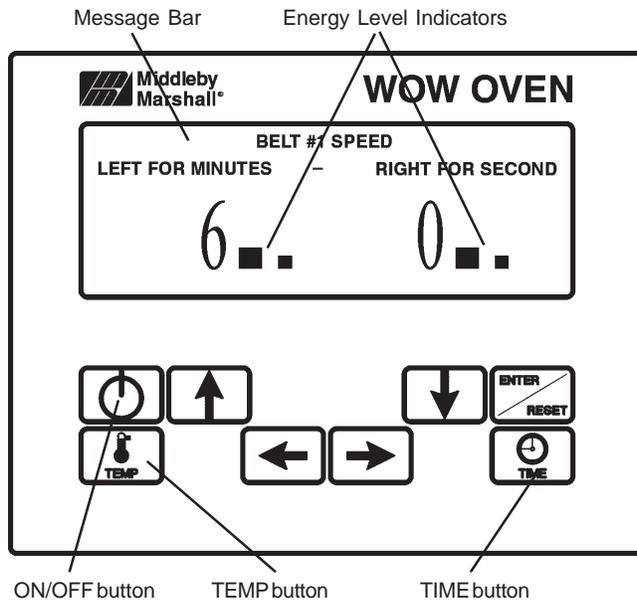

Figure 3-5 Belt Speed Screen
- To change the conveyor belt speed, push the "TIME" button. The controller will display the screen, shown in Figure 3-5. To change the minute setting, push the "←" arrow button. Then push either the "↑" arrow or "↓" arrow buttons to increase or decrease the time accordingly. To change the second setting, push the "→" arrow button. Then push either the "↑" arrow or "↓" arrow buttons to increase or decrease the time accordingly. When the proper times are entered, push the "ENTER/RESET" button. The controller will now show the display shown in Figure 3-3.